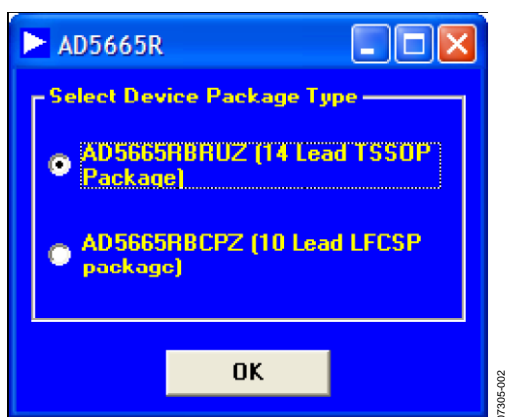

Figure 2. Device Selection Window
2. The device selection window opens, as shown in Figure 2.